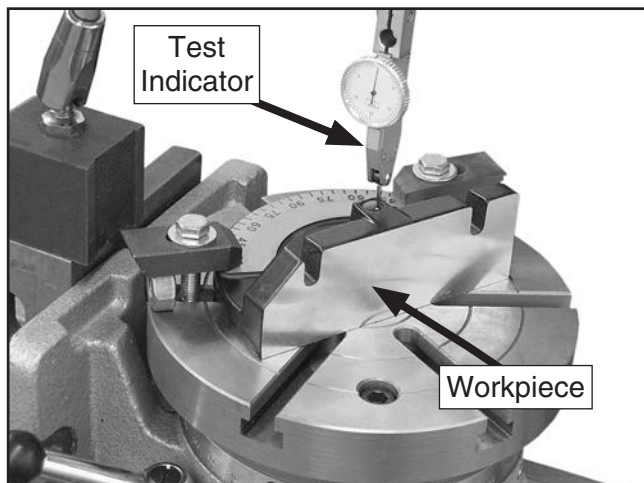

Figure 16. Example of aligning workpiece using a test indicator.
1. Position a test indicator with magnetic base beside rotary table, as shown in **Figure 16**.